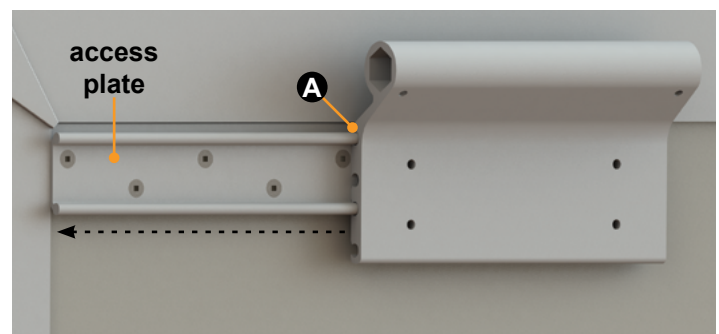
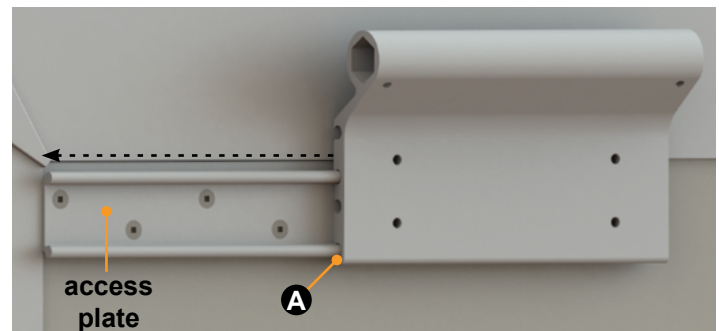

Fig.14
Fig.15
1. Slide an access bracket onto an access plate at the appropriate position (Fig.14 or Fig.15) at both ends of the slide room.